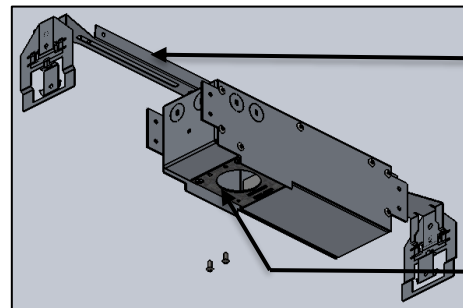

FIG. 22- DRIVER PLATE DISASSEMBLE
13. Remove the DRIVER PLATE by removing the Two Screws and slide out as shown below in FIG. 22.